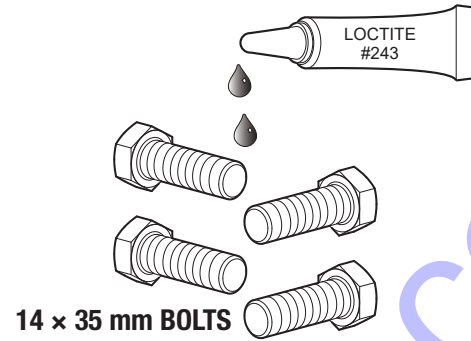

Figure 33. Applying Loctite® 243™ (Front Cover Bolts)
19. Apply Loctite® 243™ to the male threads on the four 14 × 35 mm bolts that were removed earlier from the front cover (Figure 33).